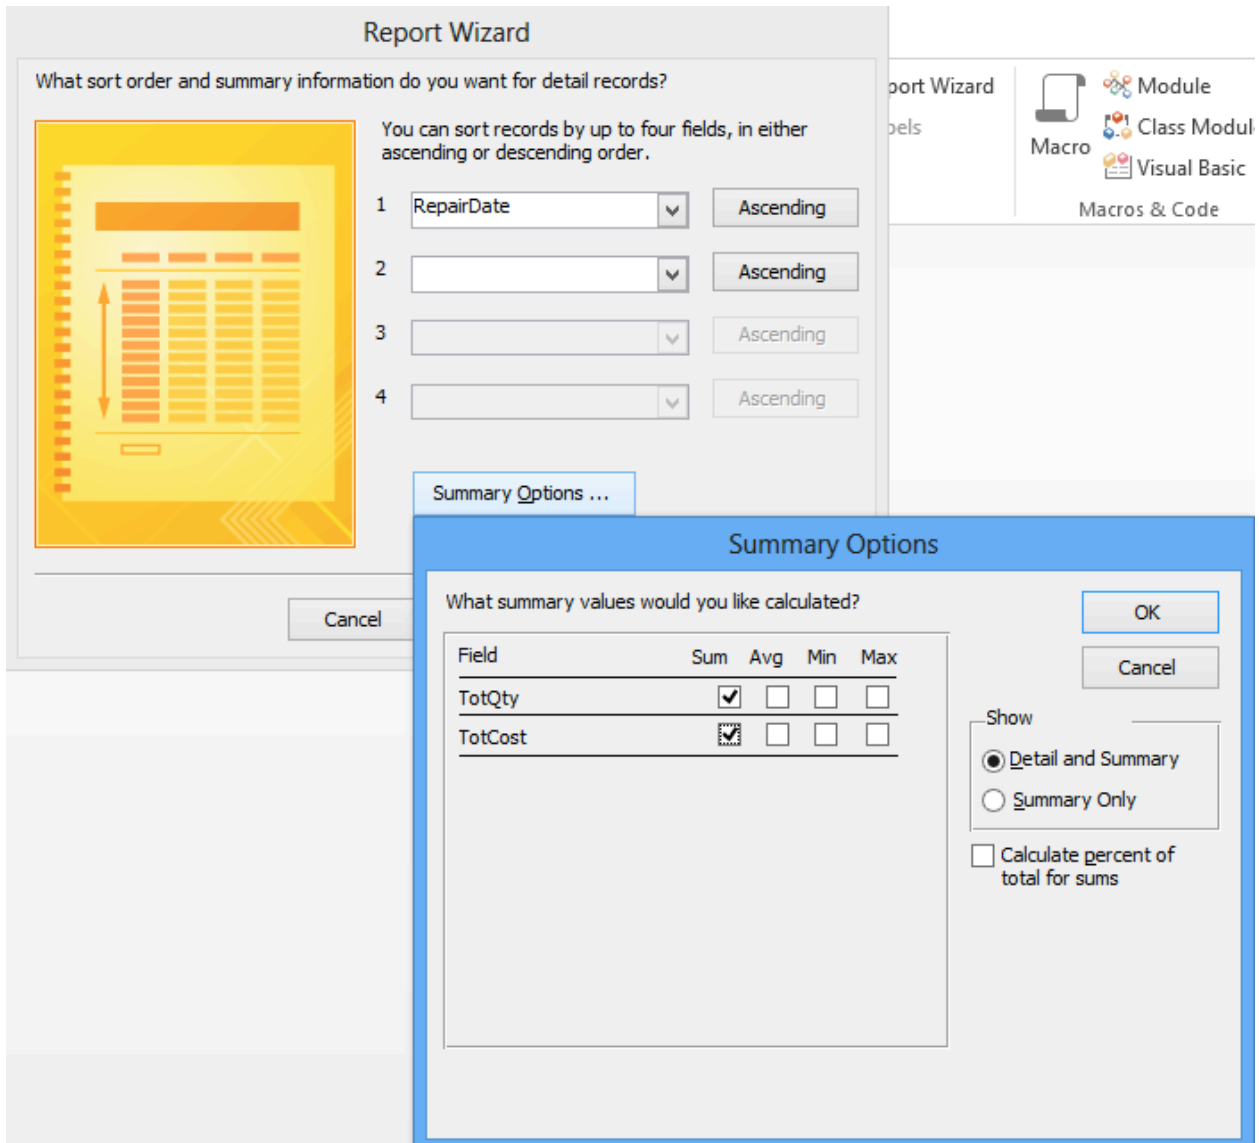

Figure 8: Sort Order Window with Overlapping Summary Options Window
4. Sort Order and Summary Information for Detail Records: Select *RepairDate* with an ascending sort order as shown in Figure 8.
- In the same Report Wizard window, click the **Summary Options...** button to set summary values to be calculated. Check the *Sum* column for both *TotQty* and *TotCost* as shown in the Summary Options window in Figure 8. Also click the **Detail and Summary** option button to display detail lines and group totals.